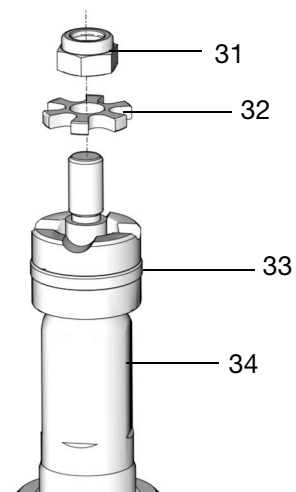

**FIG. 35**
12. Reposition air motor cylinder in vise to access the top of air motor cylinder, as shown in FIG. 35.